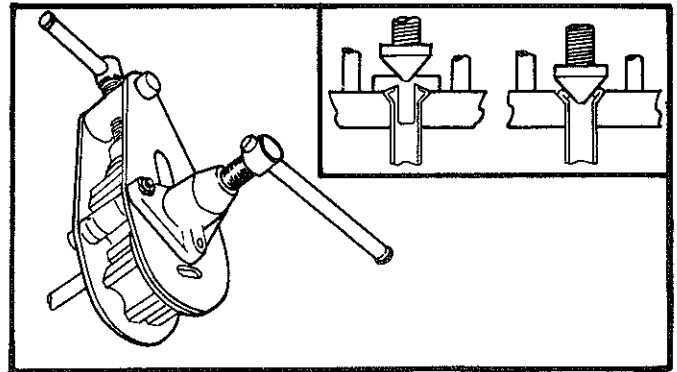

Fig. 4—Bundy tubing flaring tool
NOTE: Following procedure relates to flaring tool shown in Fig. 4 and is given as a general guide only. Follow manufacturers instructions if a flaring tool of a different design is being used.
- (3) Place tube nut on tube prior to flaring. To flare, unscrew handles of Tool (Fig. 4) and rotate jaws until mating jaws of tubing size are centred in the area between vertical posts.